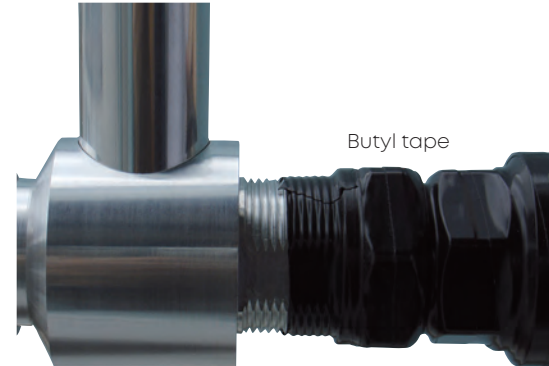

Fig. 2
- If it is not possible to comply with the above recommendation it is mandatory to protect the contact areas between forbidden metal combinations from moisture ingress. This can emerge when an aluminium EMP lightning protector is contacted to a connector interface made of other material. Narrow gaps and treads where humidity can penetrate shall be protected by means of appropriate measures like taping, coating or sealing, see figure 2 (i.e. wrapping with self-vulcanizing tape).